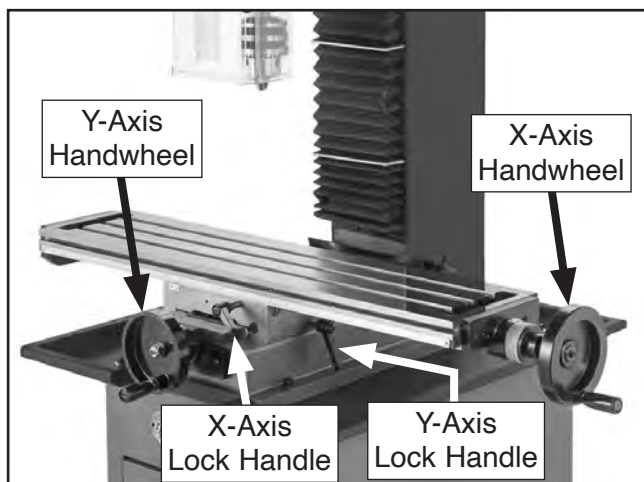

Figure 33. Location of manual table controls (G0982 shown).
Both the X- and Y-axes feature table locks (see **Figure 33**). To ensure unexpected movement of the table does not occur during precision operations, use these locks to secure the table along any axis that should not move for any given operation.
The table travel is adjusted with the handwheels on the front and side of the table (see **Figure 33**). The X-axis handwheel is spring-loaded. Press it in while turning to engage the leadscrew.
6. Loosen X-axis lock handle (see **Figure 33** on **Page 32**).